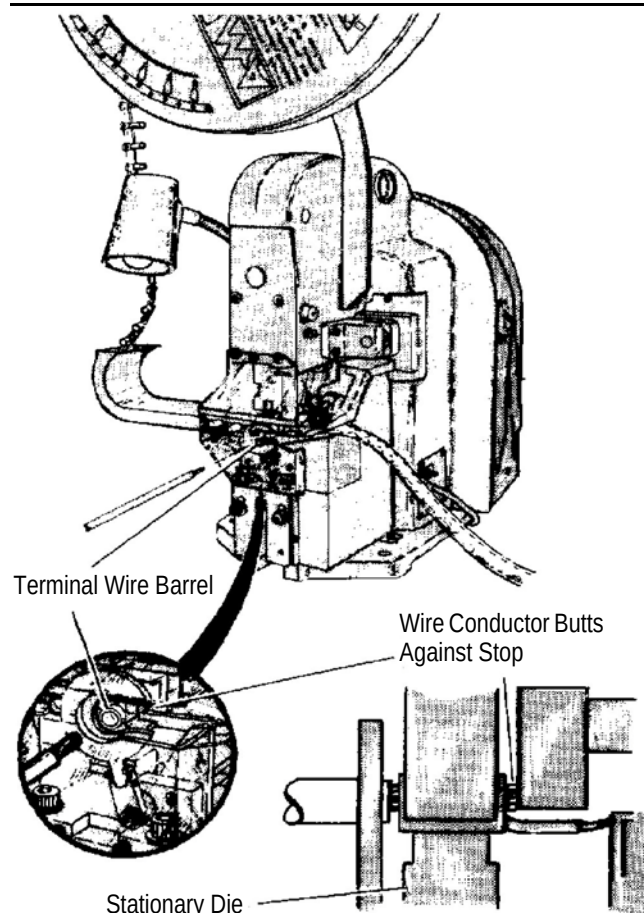
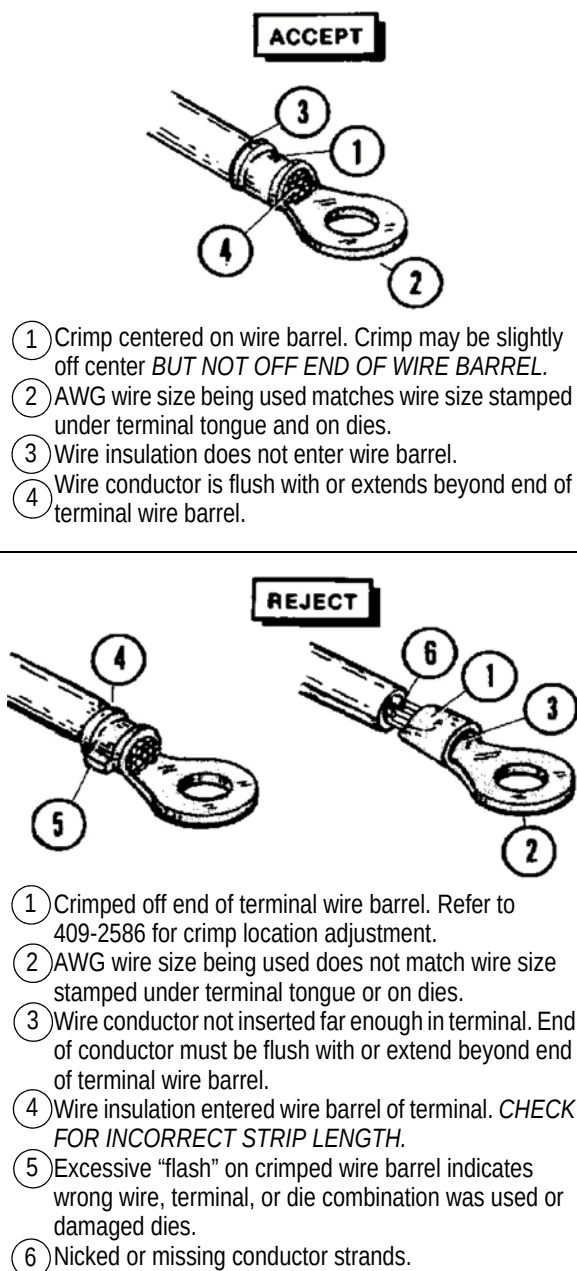

Figure 3
Figure 4
3. Insert stripped wire conductor into terminal wire barrel until it butts against the stop, see Figure 3.
6. Repeat steps (3) thru (5) for each terminal to be crimped.
7. Refer to Section 3 and Figure 4 for "Crimp Inspection" procedure.
Inspect crimped terminals by checking the features described in Figure 4.